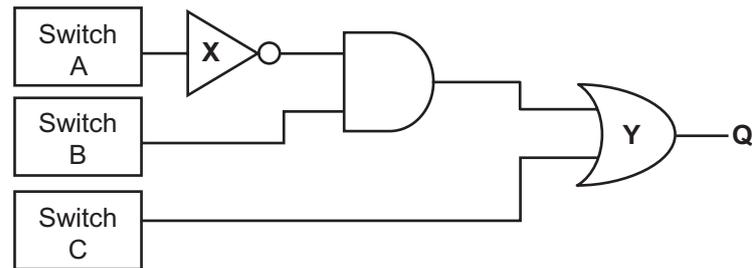

Fig. 9(a)
- 9 (a) A logic circuit is shown in **Fig. 9(a)**. The logic inputs to the circuit are provided by 3 switches labelled A, B and C.
- (i) Name the logic gates labelled **X** and **Y** in **Fig. 9(a)**. [2]
- (ii) Switch A in **Fig. 9(a)** is a reed switch. With the aid of an annotated sketch explain how this type of switch operates. [2]
- (iii) Switch B in **Fig. 9(a)** is a push to make switch. Show with the aid of an annotated circuit diagram, how this type of switch can be used to provide a logic 1 when pressed and a logic 0 when released. [3]
- (iv) Draw a truth table for all input combinations of A, B and C and the corresponding output Q for the logic circuit shown in **Fig. 9(a)**. [4]
- (b) The output from the logic circuit shown in **Fig. 9(a)** is to be used to switch on a lamp using a thyristor.
- (i) Draw a labelled circuit diagram showing how the output from the logic circuit shown in **Fig. 9(a)** can be used to switch on a lamp operating from a 24V power supply using a thyristor. The circuit should include a means of resetting the thyristor. [4]